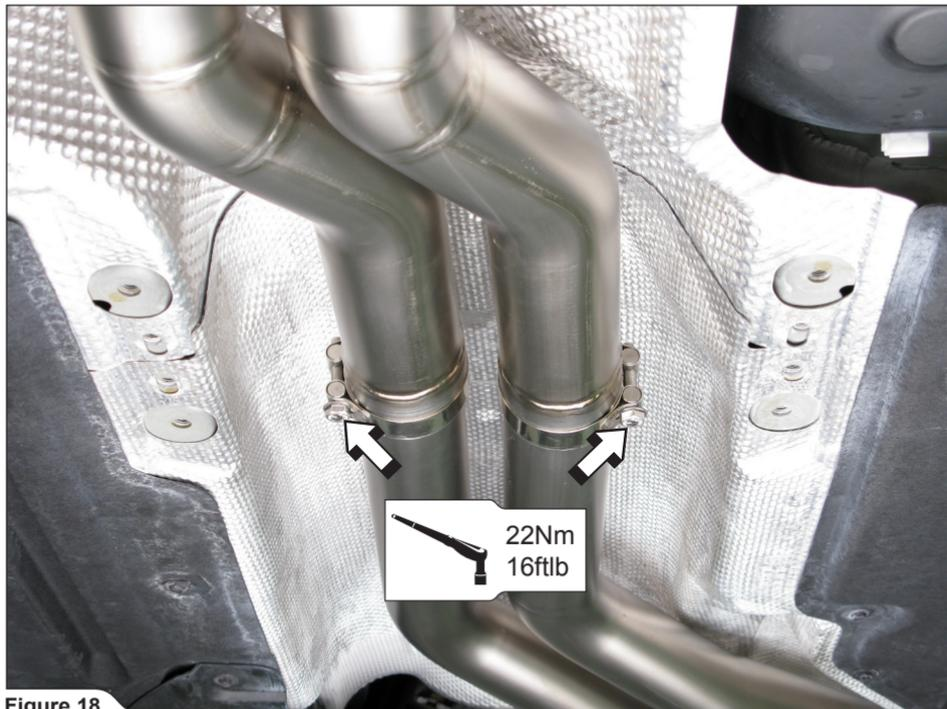

Figure 18
5. **For Evolution:** slide the middle pipes all the way onto the front pipes, align the middle and front pipes and tighten the clamps to a specified torque (**Figure 18**).